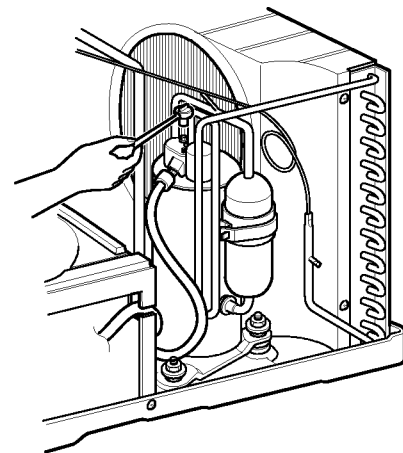

Figure 9
6. Re-install the component by referring to the removed procedure, above. (See figure 9)